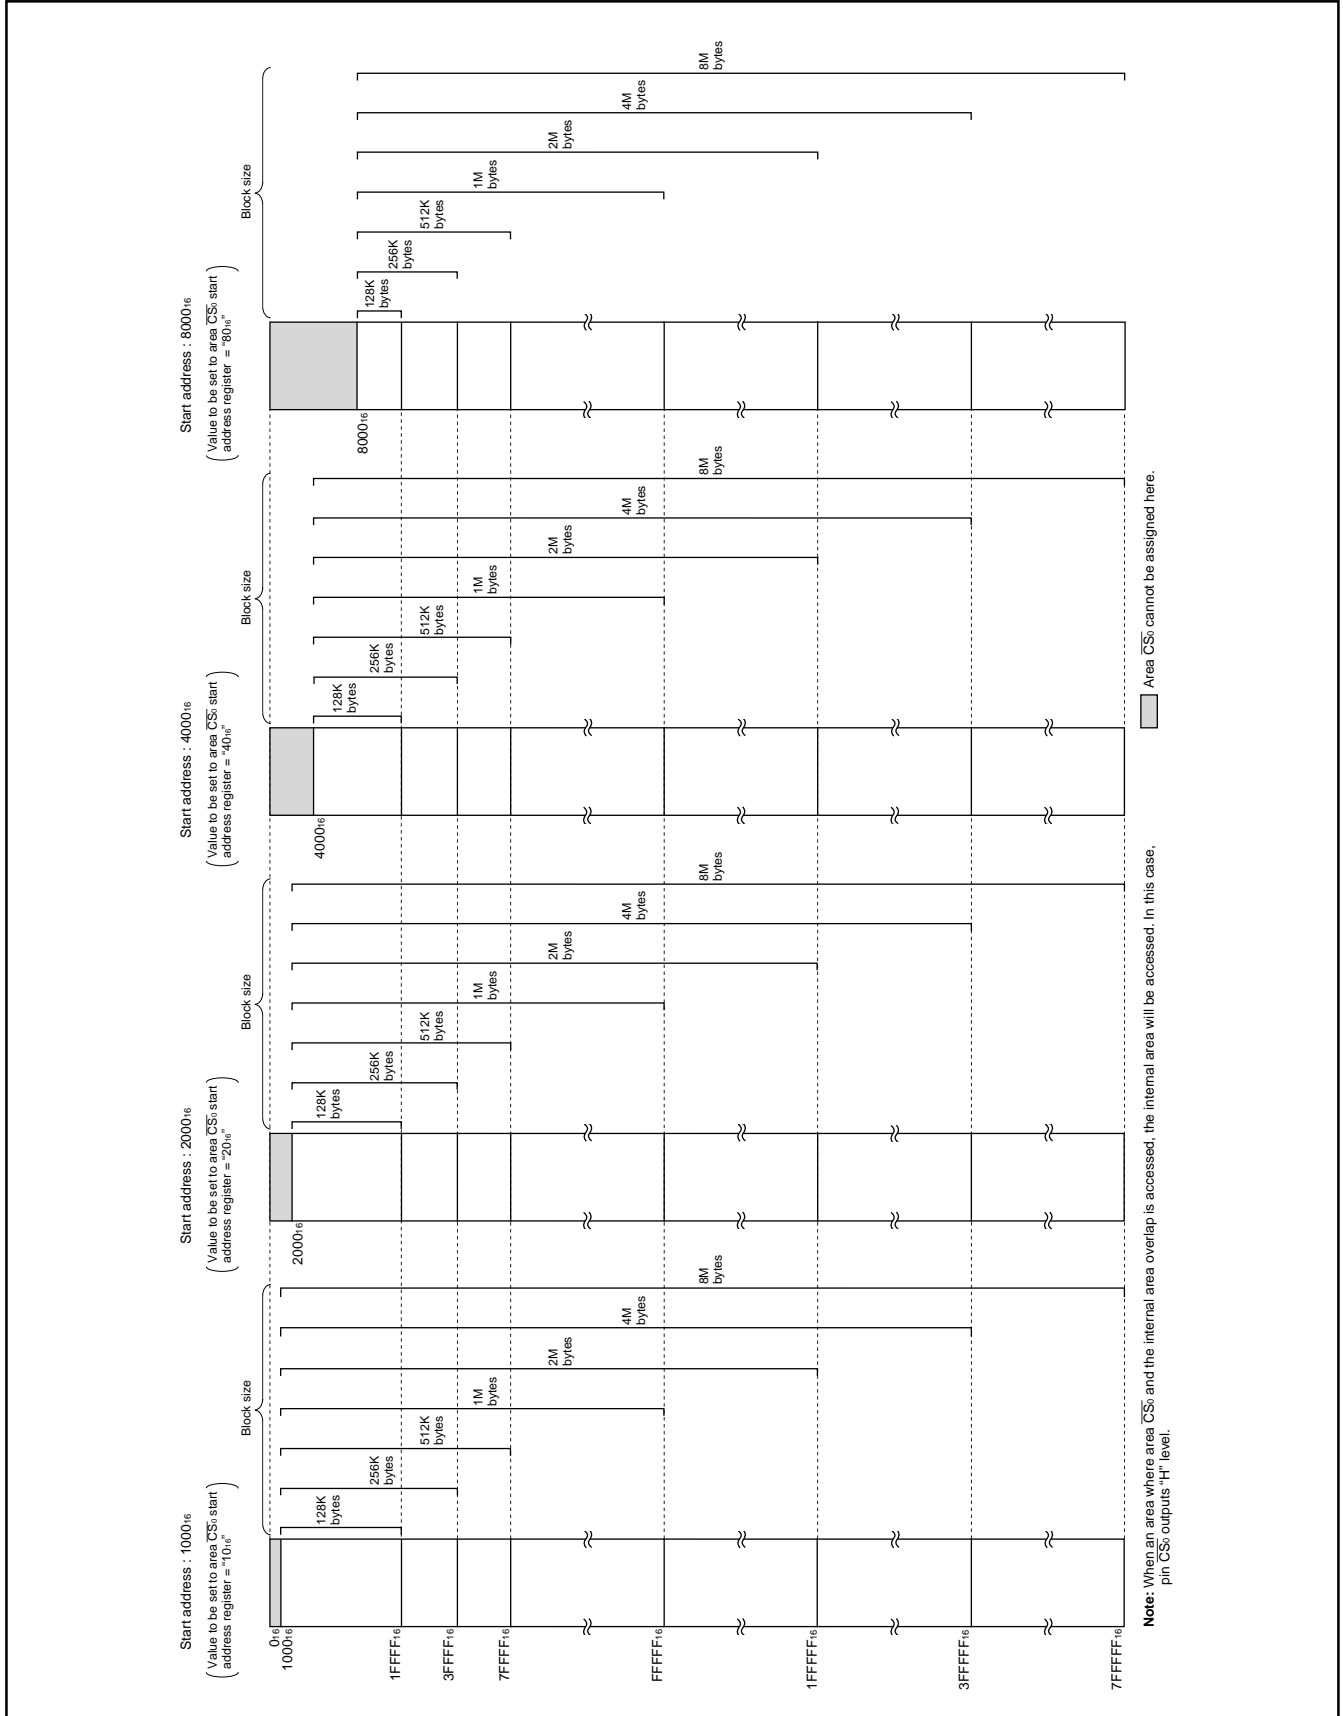

Fig. 31 Area CS0 (mode 1)
Figures 30 shows the bit configuration of the area  $\overline{CS}_0/\overline{CS}_1/\overline{CS}_2/\overline{CS}_3$  start address registers. For details of these addresses' setting, see Figures 31 to 33.
**Note:** Do not set a value other than "1016", "2016", "4016", and "8016". See Figure 31.